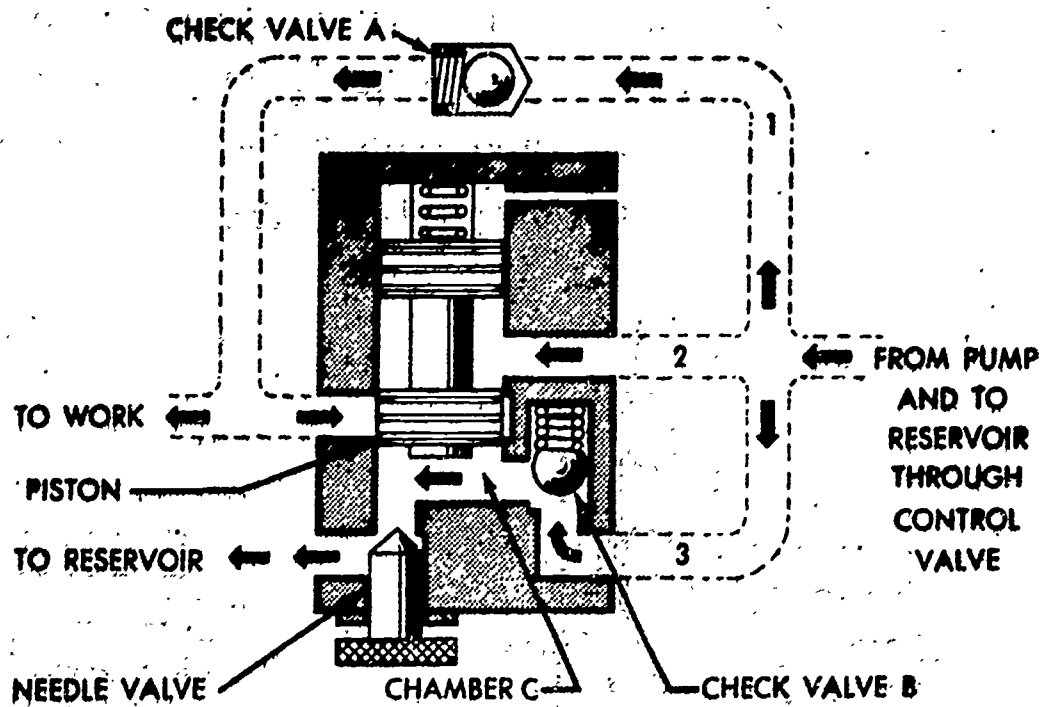

Fig. 16 Action of a time delay valve
TIME DELAY VALVE -- The action of a time delay valve is shown in Figure 16. Liquid moving from the pump through a control valve (not shown) at different times takes three paths: (1) around the time delay valve, past check valve (A) and on to the point where work is to be done; (2) through the time delay valve; and (3) through check valve (B) to produce a force on the bottom of a piston in the time delay valve, which is held in place by a spring. As an increase in hydraulic pressure compresses the spring of the piston, it rises to shut off flow through the time delay valve. Figure 16 shows the valve in this position.